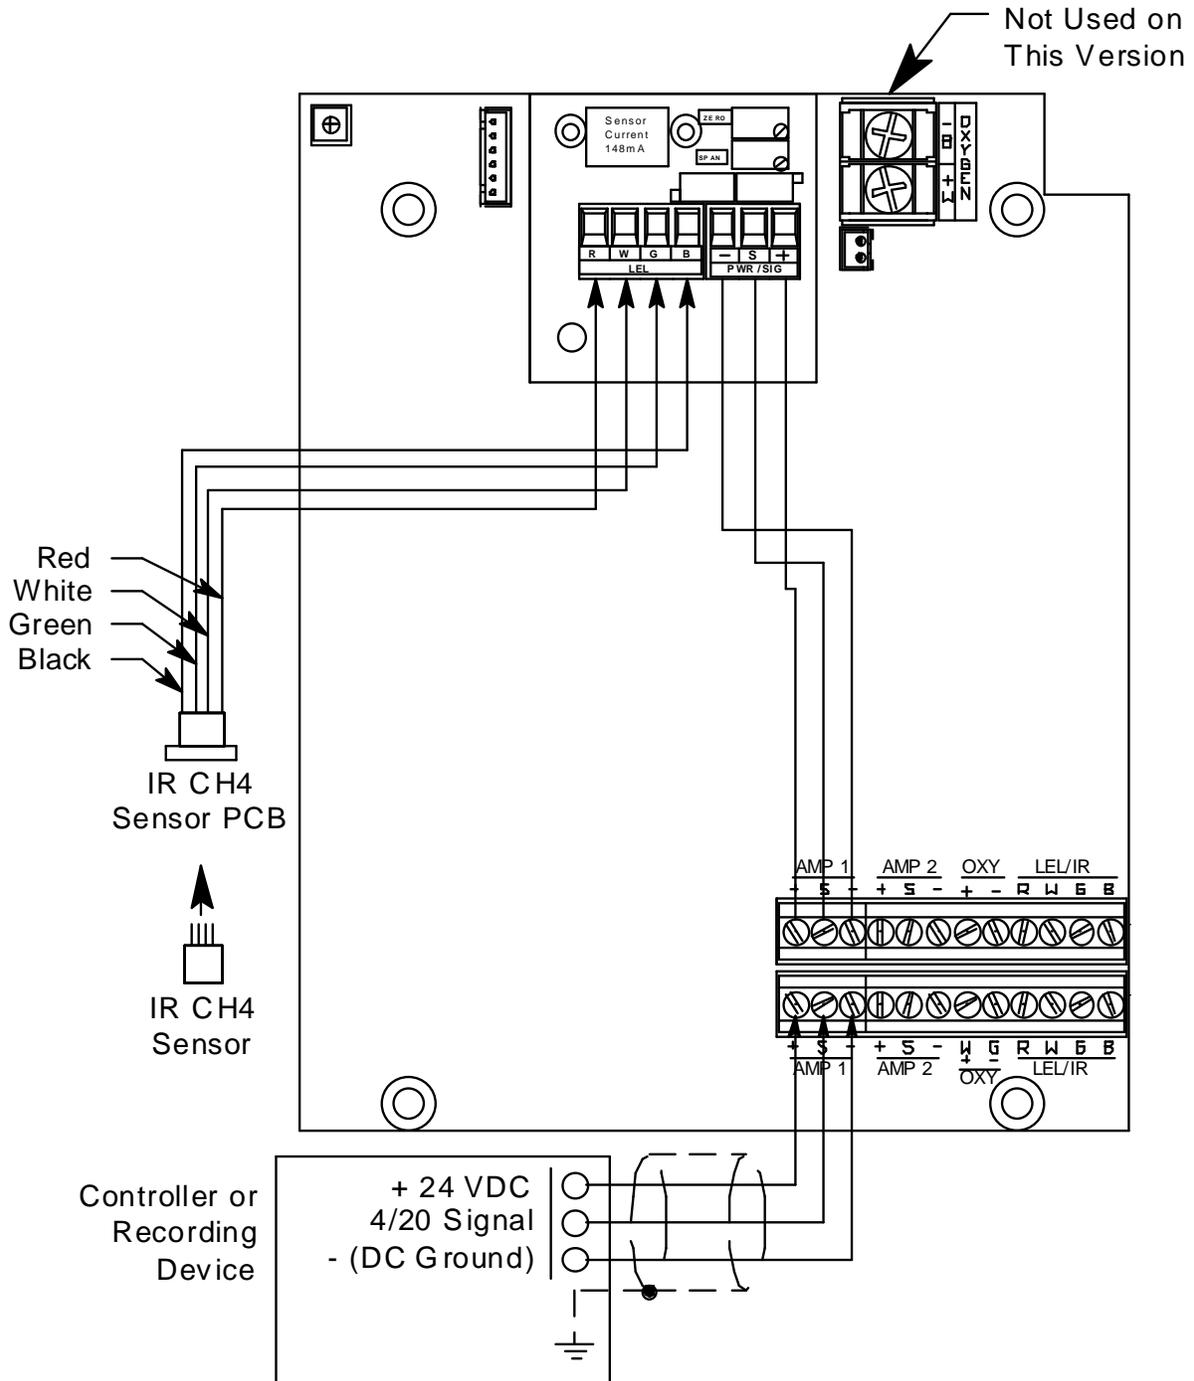

Figure 5: Wiring the Sample-Draw Detector to a Controller
5. Connect the cable to the sample-draw detector’s interconnect terminal strip as shown in Figure 5.
- Connect the wires to the applicable detector/transmitter terminal strip at the controller as shown in Figure 5. Refer to the controller operator's manual and the controller detector head specification sheet for the 35-3001A-01-03 for detector/terminal strip connections specific to the controller.